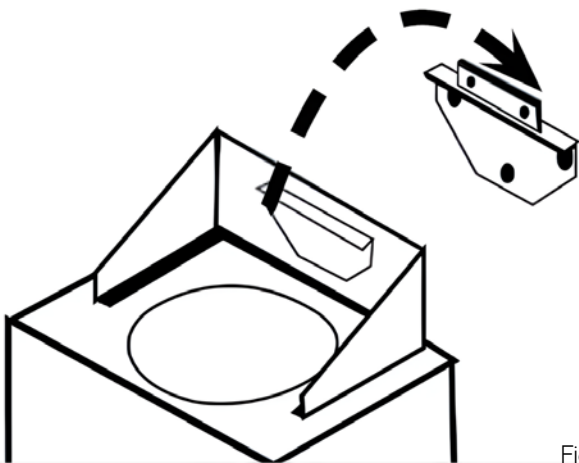

Fig 4
6. Once the bracket is secure, using two people, lift the hood and drop the horizontal support bar onto the fixed bracket (Fig. 4).